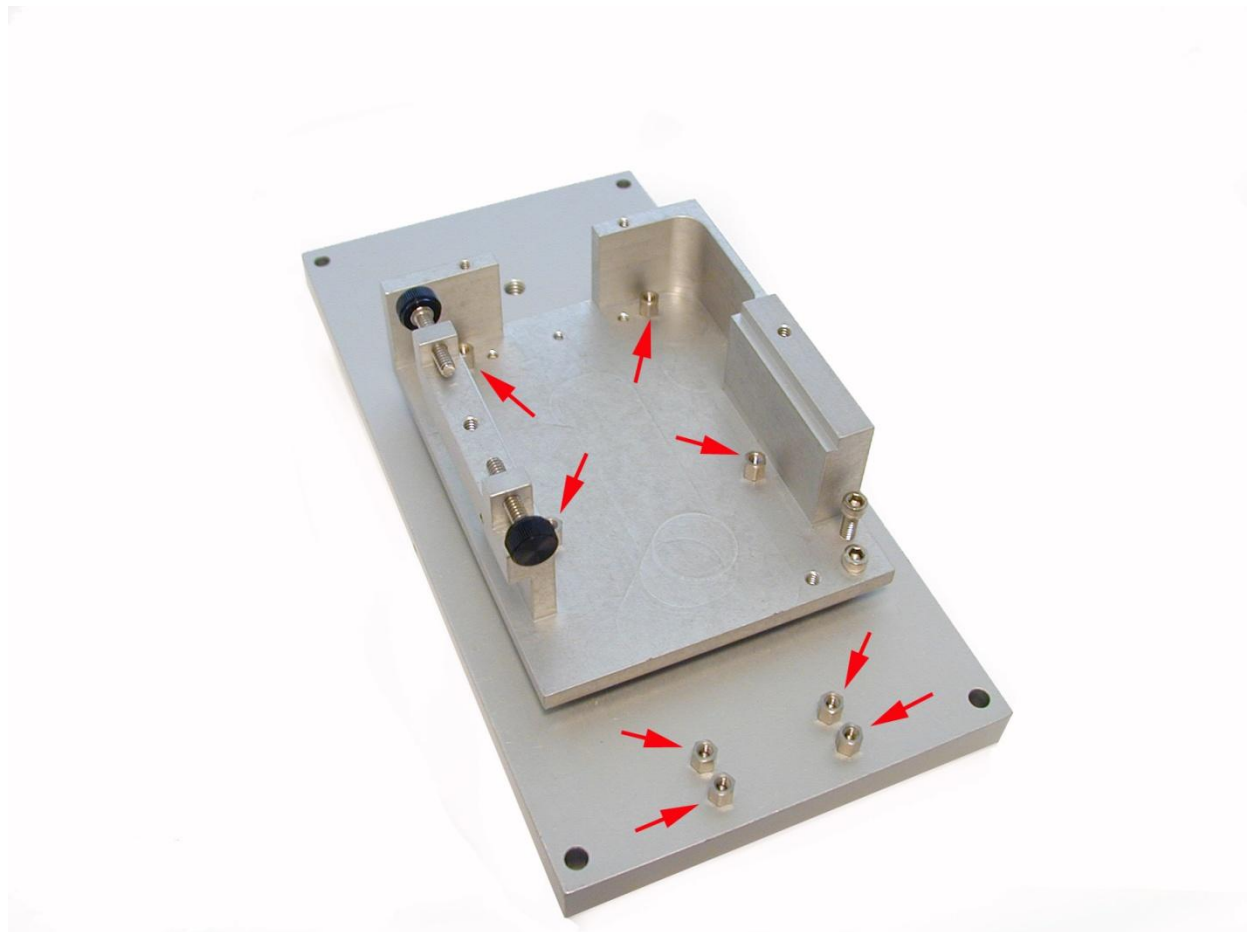

Fig. 3
3. Locate eight threaded holes on the inside of the base plate for insertion of stand-offs (provided). Screw in the eight standoffs as shown in Fig. 3 using a 3/16th socket driver. If you do not have a 3/16th socket wrench you can also thread the standoffs in by hand and LIGHTLY tighten with a pair of pliers.